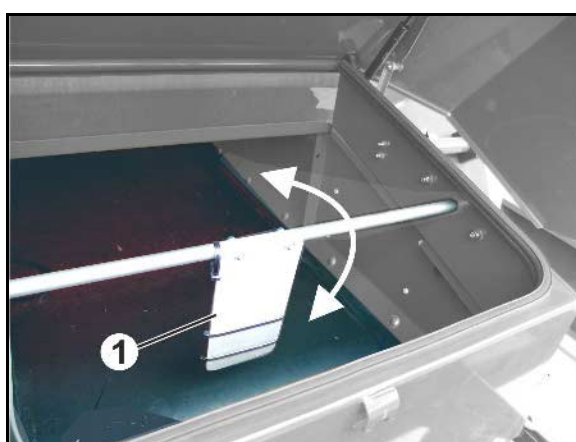

Fig. 74
1. To check the play on wheel hub bearings, raise the axle until the wheels turn freely (Fig. 74).